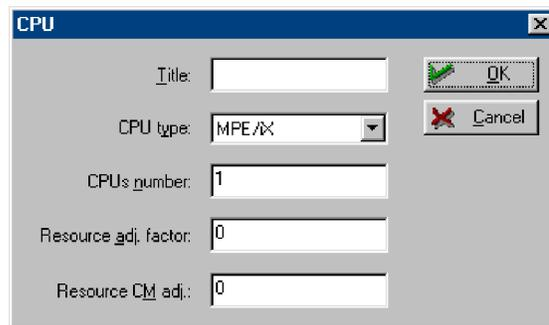

Figure 8.23 CPU dialog box
- 4 From the **CPU** dialog box (Figure 8.23), enter the following information about the CPU: